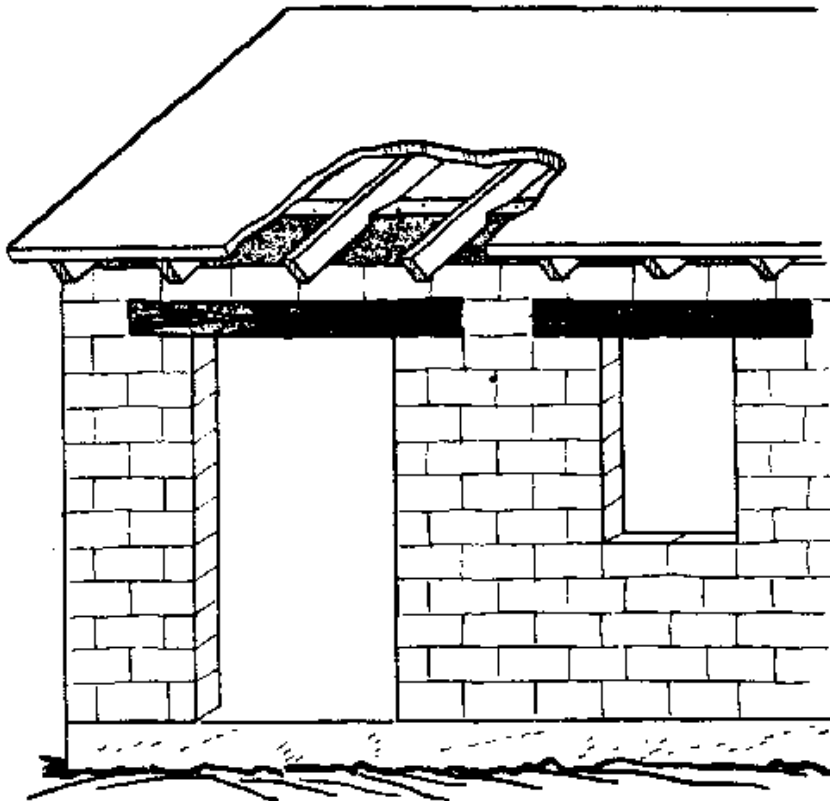
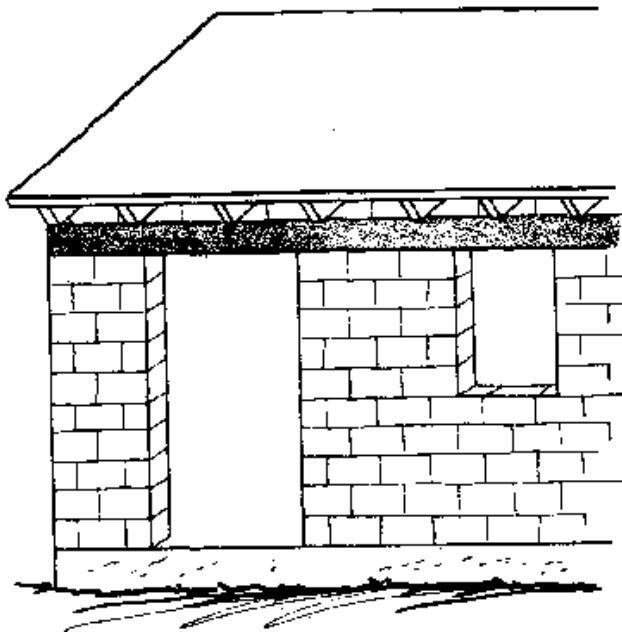
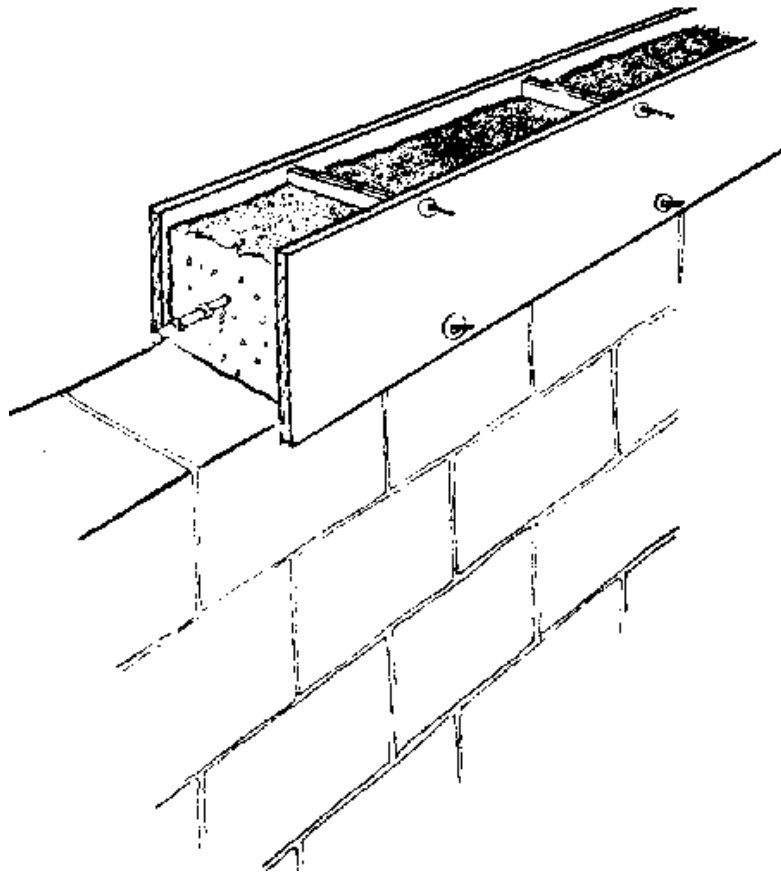

Figure 68. This shows how timber lintels are used above doors and windows. Above the lintels (in the cut out section) is shown a concrete bond beam.
Figure 70. This shows a combination bond beam and lintel, made from reinforced concrete, that can be used, on low-ceiling houses.
Figure 71. Forms like this can be used to pour concrete bond beams and lintels in place in the wall.
*LINTELS* - The weakest spot in any house is over the doors and windows. A beam or other reinforcing cross piece called a lintel should always be used above these openings as shown in Figure 68. The lintel must be strong enough to support construction loads as well as the weight of the blocks above. A large timber or a reinforced concrete beam makes a good lintel. (Fig. 95 in Appendix A gives some thicknesses of lintels that can be used for various conditions.) The lintel should be at least as thick as the wall so that blocks laid on top of it will be fully supported. They should also project out on either side of the door or window for a distance at least equal to the thickness of the wall so they will have plenty of surface to rest on.
*BOND BEAMS* - Bond beams (sometimes called tie beams or perimeter beams) are used to reinforce the top of the earth wall against loads from the roof. (See Figure 68.) The beam distributes the roof load and ties the top of the walls together. If a low-ceiling house is being built, the bond beam can also serve as the lintel as shown in Figure 70. Bond beams should be the same thickness as the wall and preferably be tied to the wall with bolts or some other type of projection. The beams may either be wood or reinforced concrete. Wooden bond beams should be placed over a thin layer of mortar on top of the last course of blocks. Concrete bond beams (and lintels also) can be poured in place on top of the completed earth wall as shown in Figure 71. Make the forms strong so they will not bulge. If you are using a timber frame roof, set bolts in the fresh concrete for holding the roof down.